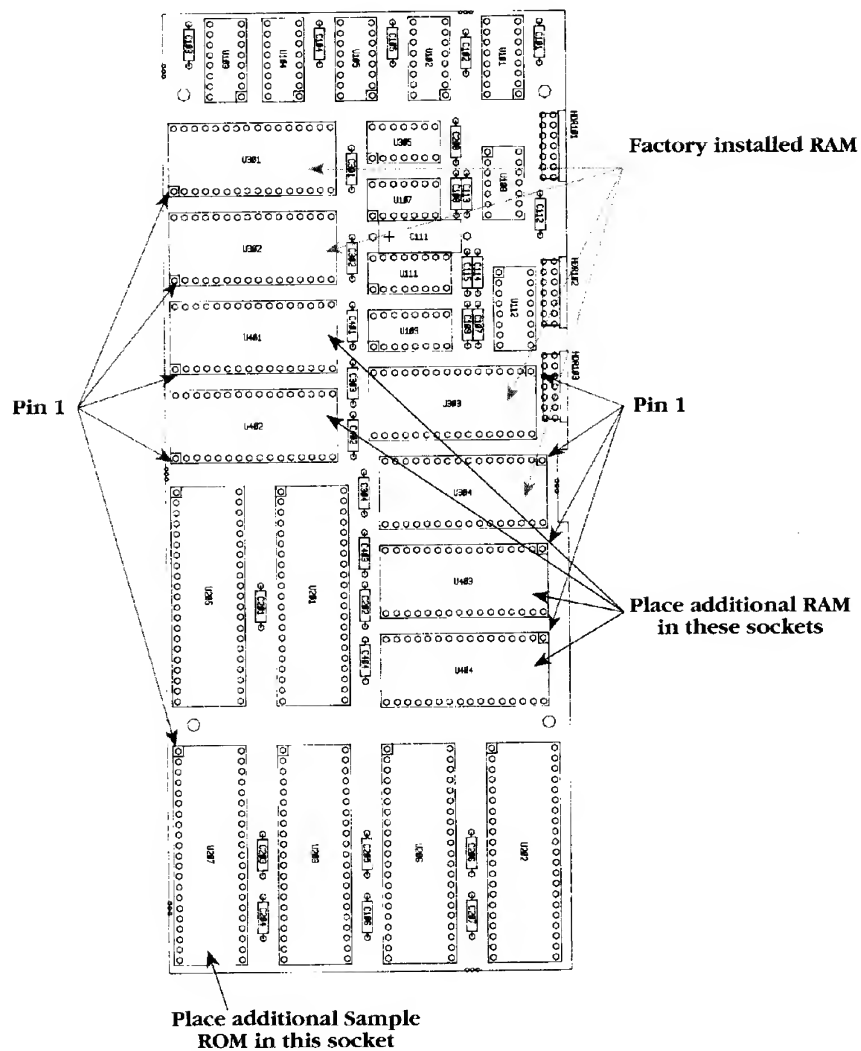

Figure 3
8. The DPM 4 Memory Board comes with 512K of RAM pre-installed. To install an additional 512K of RAM (bringing the total to 1 megabyte of RAM), the installation of four RAM ICs is required. Refer to *Figure 3* for proper location of additional RAM.
9. The DPM 4 comes with ten megabytes of Sample ROM pre-installed. An empty socket is provided for future expansion of sample memory (via a two-megabyte IC—resulting in a total of twelve megabytes of Sample ROM). Refer to *Figure 3* for the proper location of the two-megabyte Sample ROM IC.
Note: It is *very* important to place the ICs in all of these installation procedures with pin 1 in the proper orientation (refer to *Figure 2a*). For RAM installation, place the ICs with pin 1 in the same orientation as those already installed (see *Figure 3*). For Sample ROM installation, place the IC with pin 1 in the same orientation as those already installed (see *Figure 3*). For EPROM installation, replace the ICs in the same orientation as those removed.